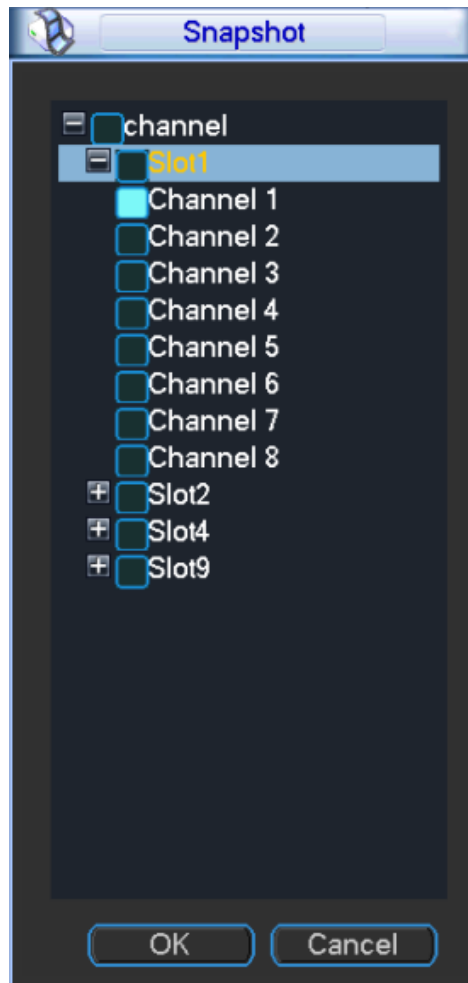

Figure 3- 54
- Snapshot: Enable snapshot by checking ☒. Snapshot when motion detection starts. Click select to set certain channels. See Figure 3- 54.